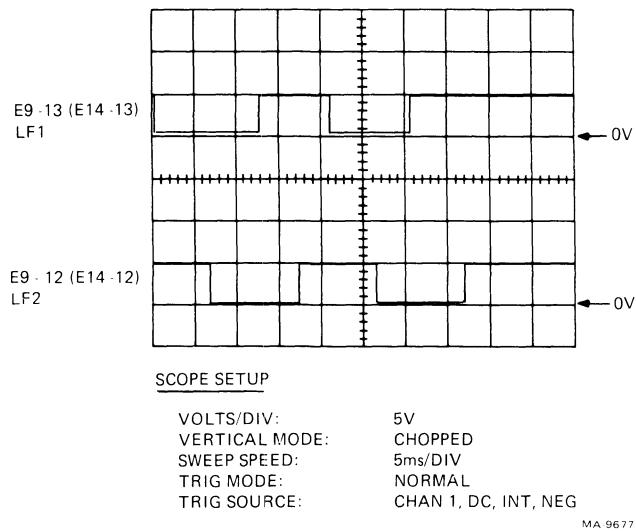

Figure 6-11 Line Feed Signal Output of DC305
4. Connect channel 1 of scope to E14-13/E9-13 (LF1). Connect channel 2 of scope to E14-12/E9-12 (LF2). Set up scope according to Figure 6-11.
6. Press **LINE FEED** and look at the two channel inputs to the line feed drivers. Check that the waveforms are as shown in Figure 6-11.